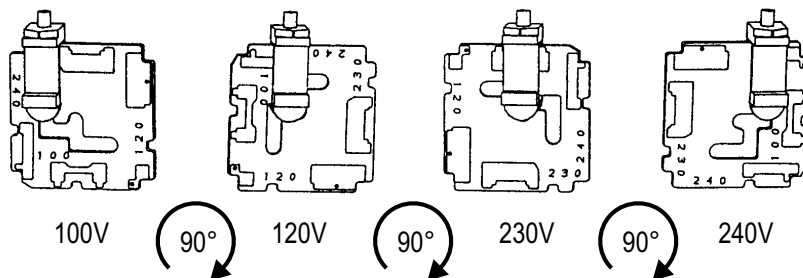

Figure 47. Voltage selector card positions
4. Orient the selector card so that the desired input voltage is readable at the bottom (see Figure 47). Then orient the indicator pin to point